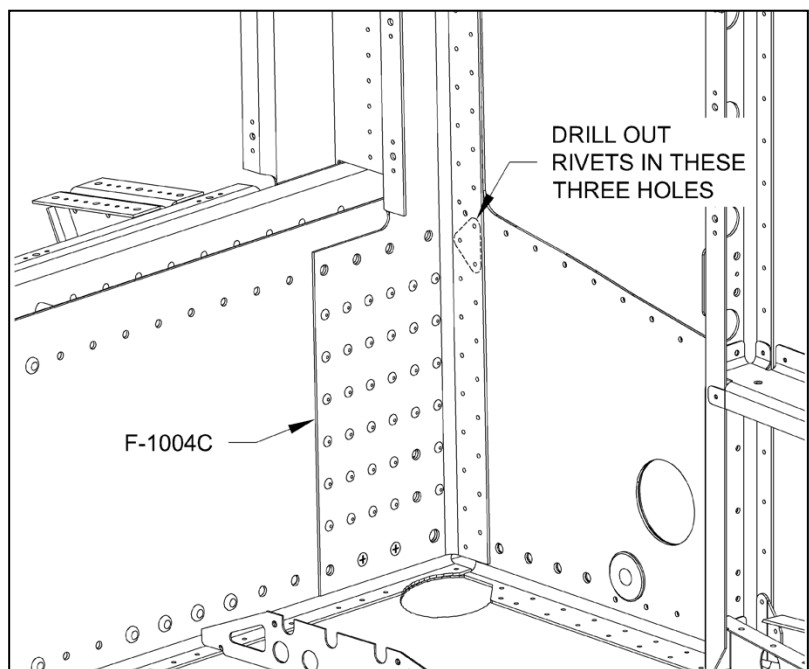

FIGURE 8: REMOVING FLANGE RIVETS
Step 24: From both sides of the fuselage, drill out the three AN426AD3 rivets called out in Figure 8 that are used to attach the flange of the F-1004C Center Section Bulkhead to the side skin. Count the rivets from the bottom of the flange to be sure to identify the correct rivets.